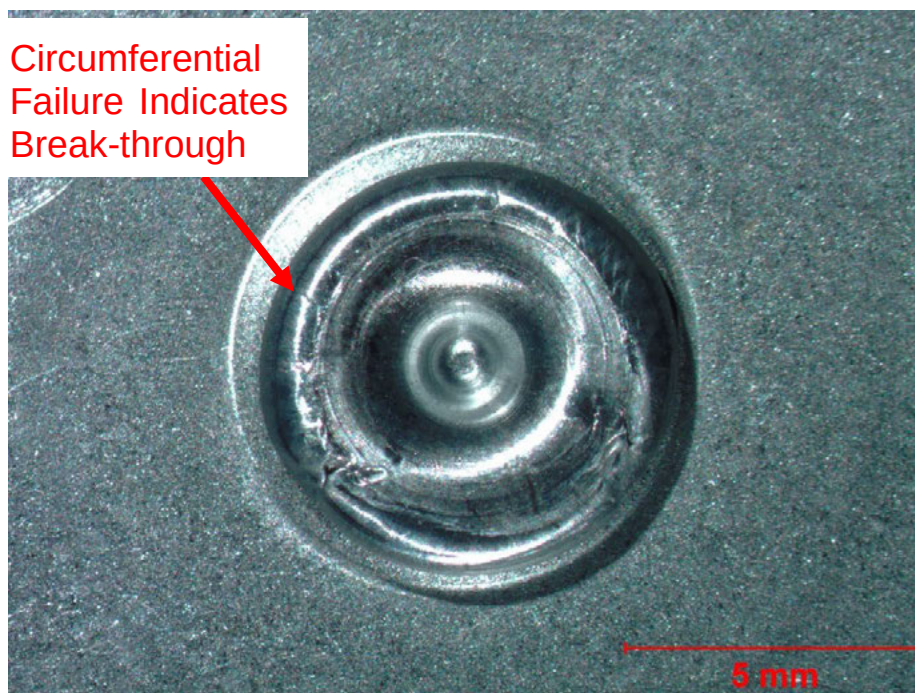

Figure 4: Rivet Break-through Example on Die Side of Joint (Shown Riveted with PIP Die)
3.2.1.4 Rivet break-through. A self-piercing rivet is discrepant if it breaks through the bottom sheet (die side). A joint with rivet break-through (see Figure 4) is discrepant.